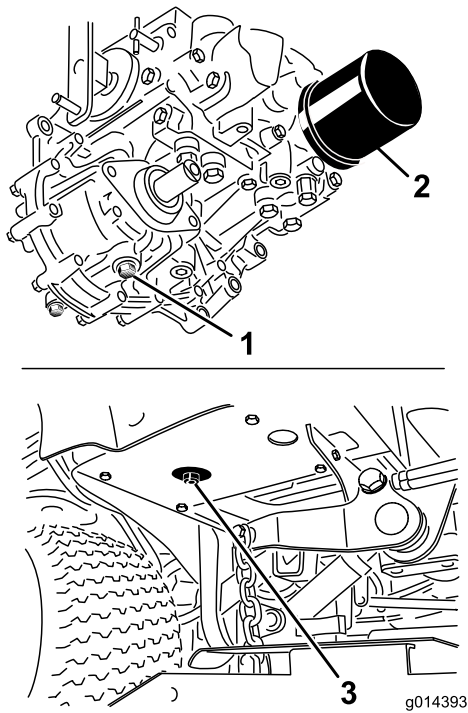

Figure 89
3. Place a large pan under the hydraulic reservoir and transmission case and remove the plugs, draining all of the hydraulic fluid (Figure 89).
4. Clean the area around the hydraulic-fluid filter and remove the filter (Figure 89).